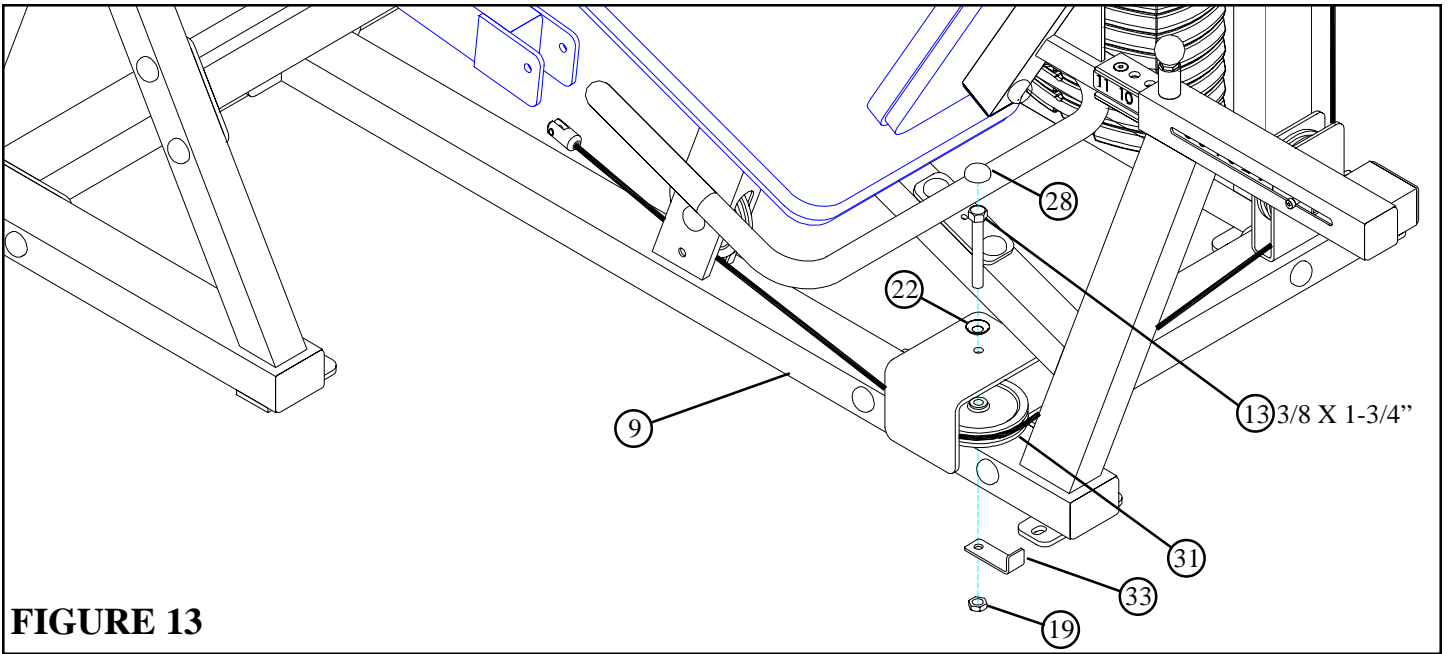

FIGURE 13
- **SECURELY** assemble the 4-1/2" PULLEY (31) to the horizontal pulley bracket on the SEAT FRAME (9) using one RH CAP (28), one 3/8 X 1-3/4" BOLTS (13), one 3/8" RH WASHER (22), one CABLE CLIP (33), and one 3/8" LOW HEIGHT LOCK NUT (19).as shown in FIGURE 13.(Note position of CABLE CLIP (33))